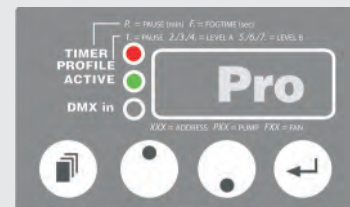

Fig. 5: Profile modus
- ☞ **Mode button [13]**: Push until Display shows Pro (see Fig. 5)
- ☞ **Mode button [13]**: Switch through the menu items 1 to 7